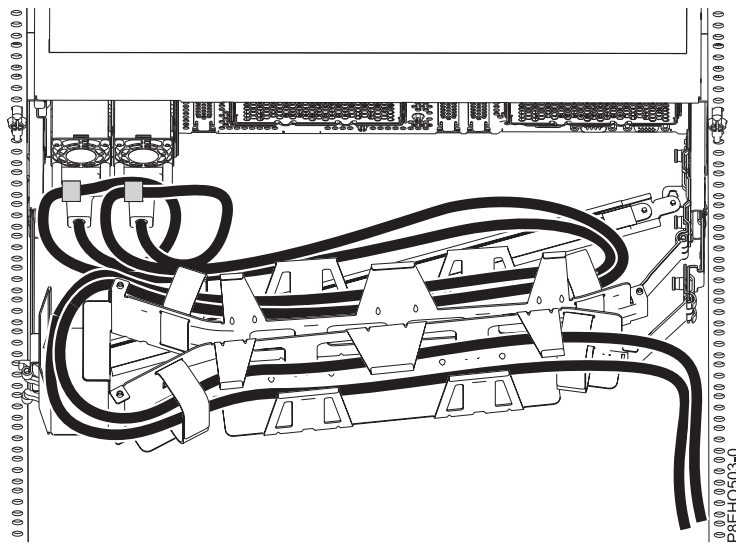
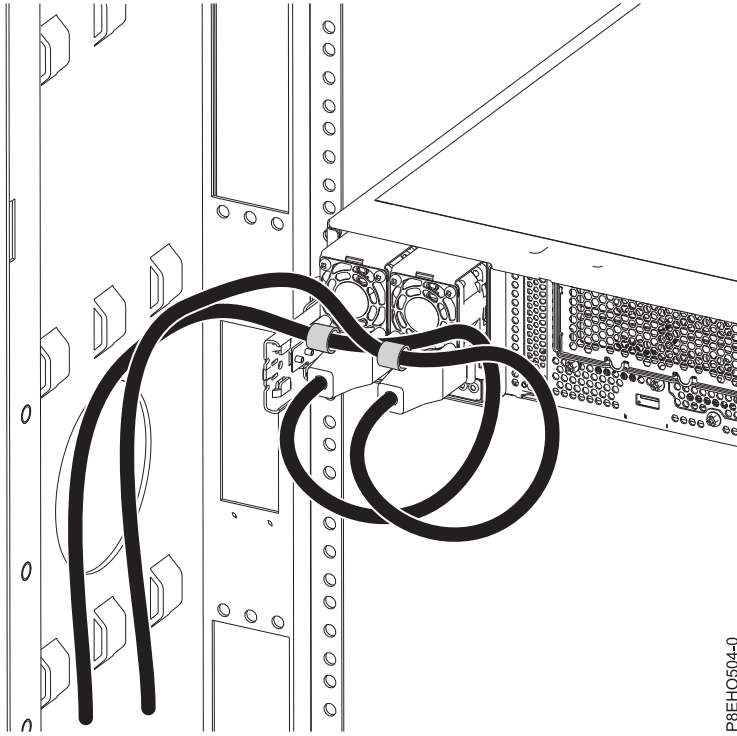

Figure 118. Power cord loop with cable management arm routing. The power cord loops counterclockwise to the right.
Figure 119. Power cord loop with sidewall routing. The power cord loops counterclockwise to the left.
3. Loop and attach the power cords to the power supply handle. Note how the power is looped; be sure to maintain at least a 5 cm (2 in.) diameter loop. There are two types of loops, detailed in Figure 118 and Figure 119 on page 117. Use the hook-and-loop fastener to tie the power cord to the power supply handle.